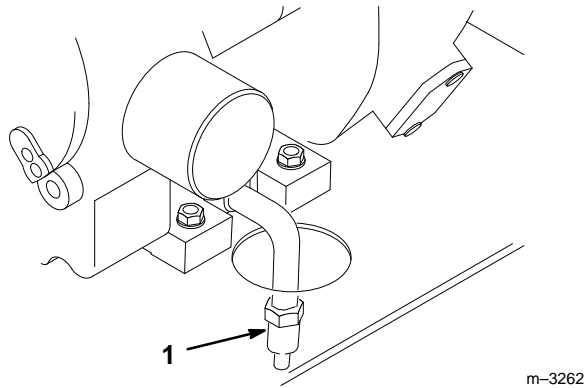

Figure 27
4. Place a pan below the oil drain. Open the drain by turning it counterclockwise 1/8 turn and pulling out on it (Fig. 27).